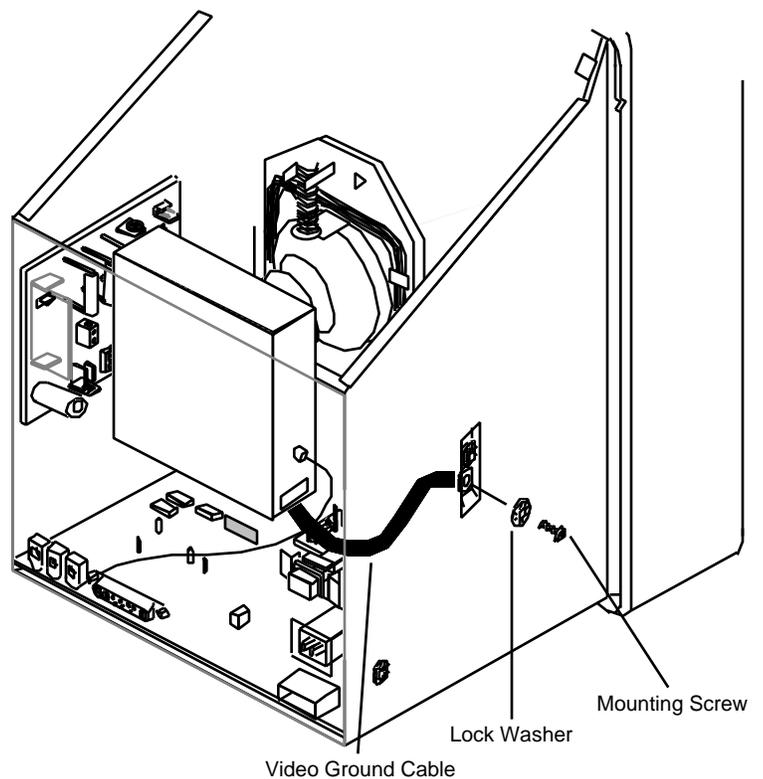

FIGURE 20
4. Remove the screw, lock washer, and large black video ground cable from the ground bracket (Figure 20).